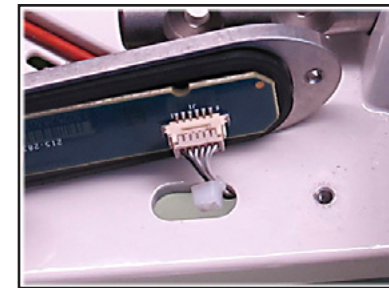
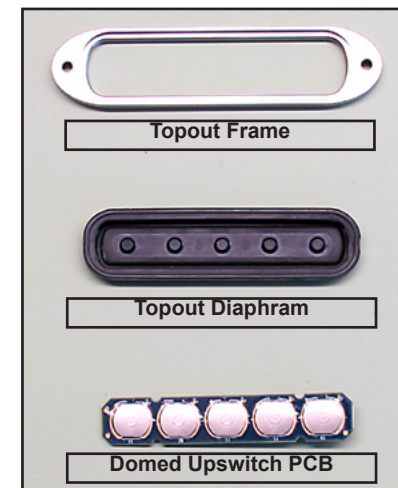

Figure 3-68 Domed Upswitch PCB Connector
Figure 3-69 Domed Upswitch Assembly Components
- 52.10 Lift assembly from footswitch housing and disconnect connector shown in Figure 3-68. The assembly includes the Topout Frame, Topout Diaphragm, and Domed Upswitch PCB (see Figure 3-69).